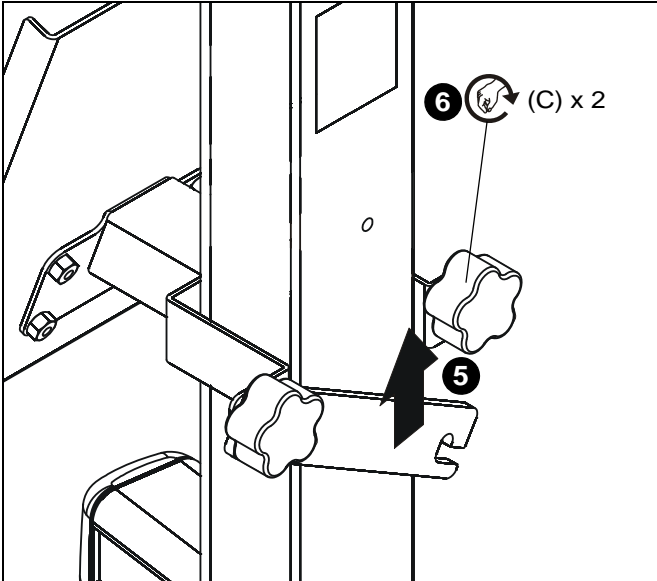

Figure 9
5. Raise shelf bracket and hook over shelf's right stud. (See Figure 9)
6. Turn both knobs clockwise to tighten the shelf in place. (See Figure 9)